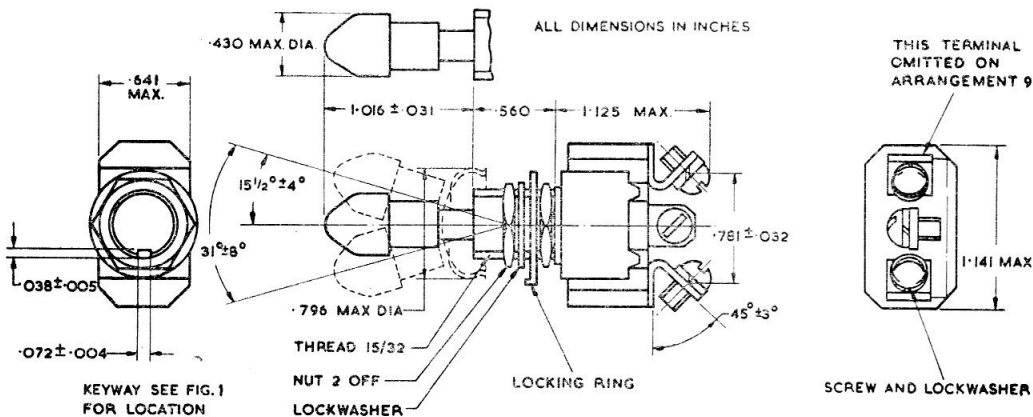

Fig. 2. Installation details
8. For this one hole mounting switch, one hexagon nut is supplied, assembled to the bushing, face nut, internal tooth lockwasher, with locking supplied unassembled. An installation drawing is shown in fig. 2.